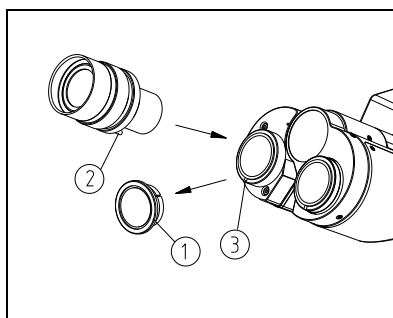

Fig.9
(1) Take down the cover of eyepiece tube ① (See Fig. 9).
(2) Insert the eyepiece into the eyepiece tube, until touch the bottom.